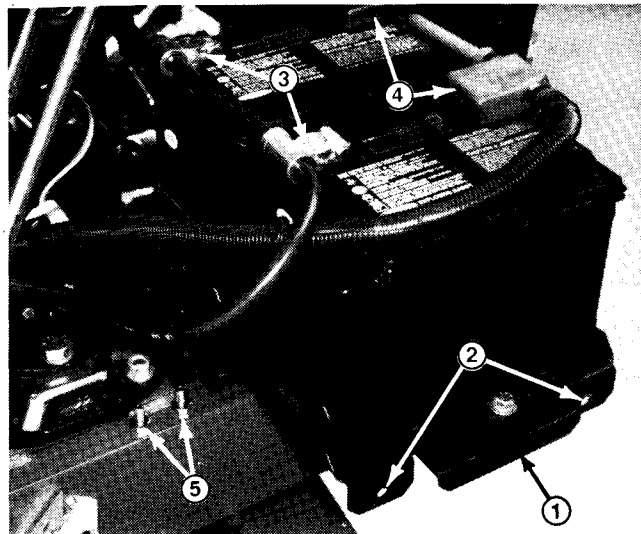

Figure 27
2. Remove capscrews securing battery tray and slide tray out (Fig. 27).